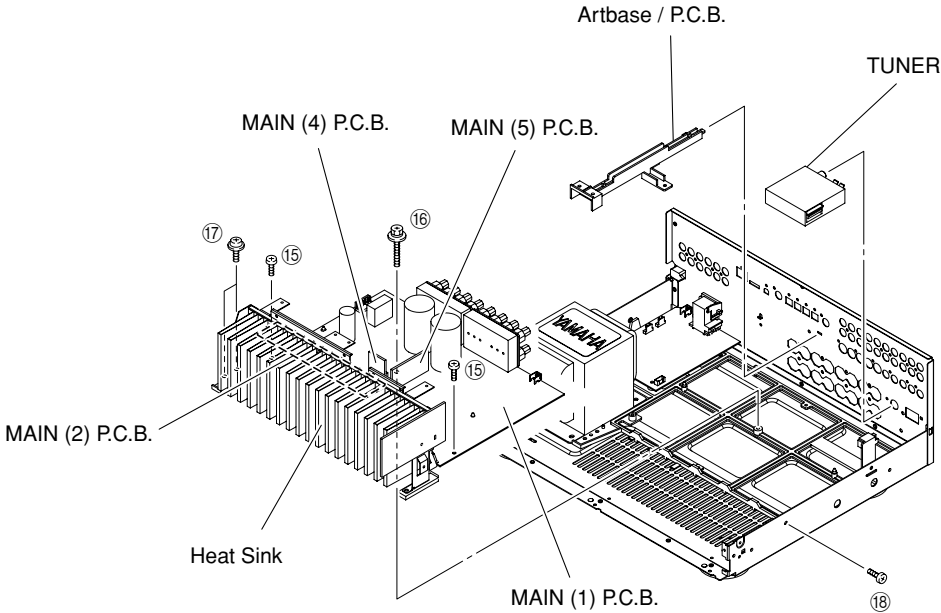

Fig. 5
- b. Remove the TUNER. (Fig. 5)
8. Removal of MAIN (1), (2), (4) and (5) P.C.B.s
- a. Remove the Artbase/P.C.B.. (Fig. 5)
- b. Remove 2 screws (15), 1 screw (16), 2 screws (17) and 1 screw (18). (Fig. 5)
- e. Remove MAIN (1), (2), (4) and (5) P.C.B.s together with the Heat Sink. (Fig. 5)